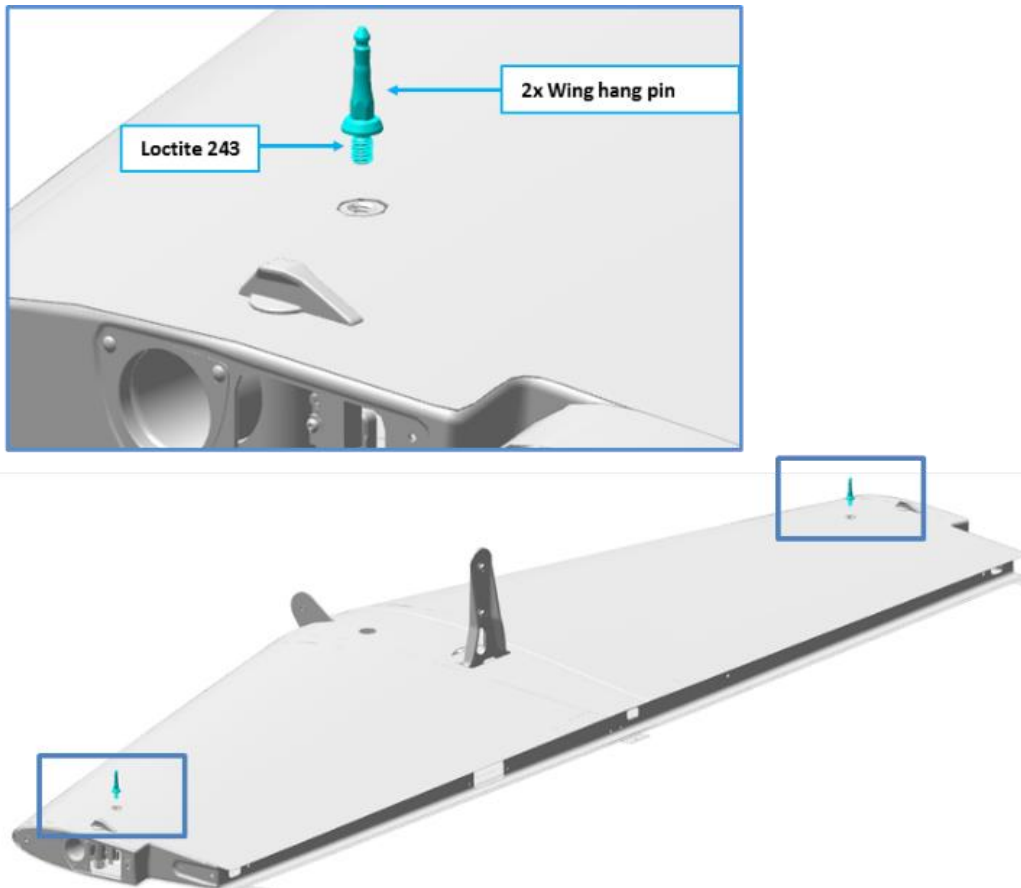

Figure 1: Wing Hang Pin Install
2. ____ Apply Loctite 243 onto the threads of the new wing hang pin, Figure 1.